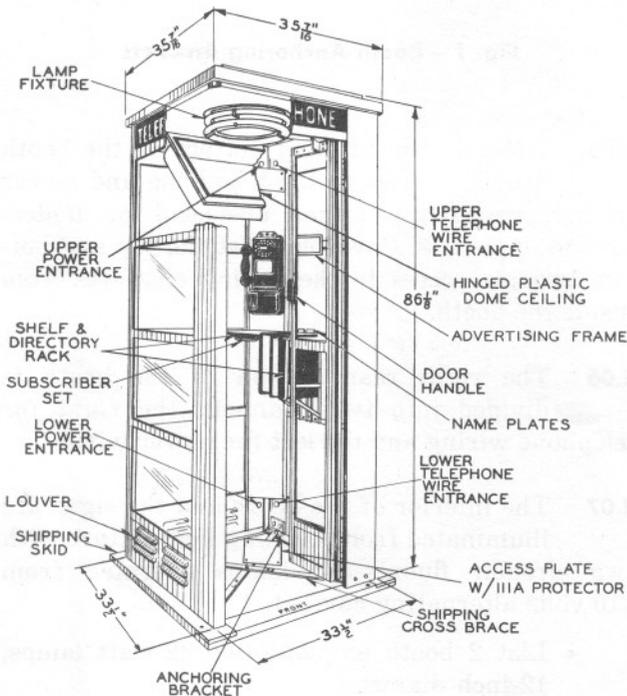

Fig. 3 - KS-14611, List 3 Booth
2.13 The list 3 booth is equipped with a plastic dome ceiling which is dust free and houses only the light fixture (see Fig. 3).